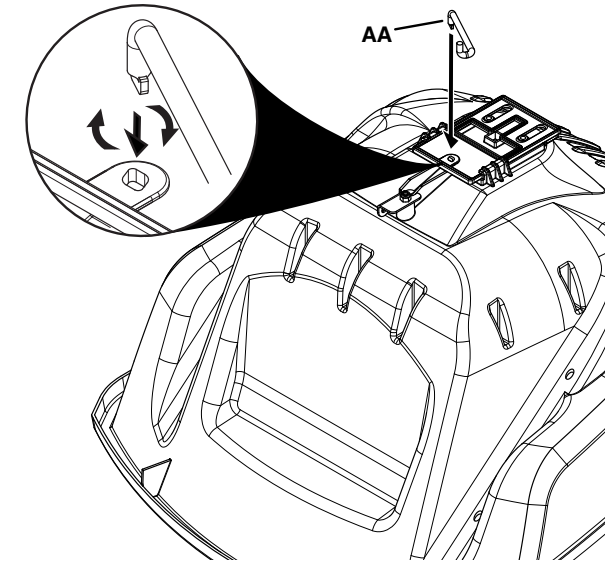

Figure 5
STEP 5: (SEE FIGURE 5)
- Install the flattened end of the drive link rod (AA) into the hole in the flow plate. Twist the rod to lock it in the flow plate.